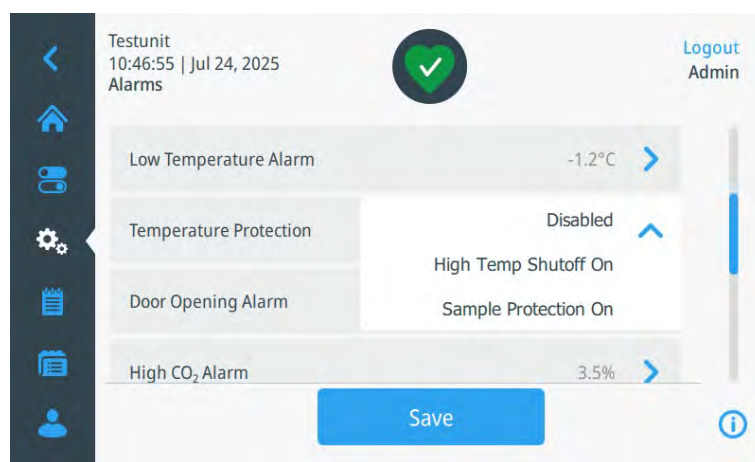

Figure 7-13. Temperature Protection
- To end the High Temperature Shutoff function, return to the Menu “Temperature Protection” (Figure 7-13) and choose “Disabled”.
- Select “Sample Protection on“ (Figure 7-13) to define a desired temperature range that should be maintained. The following screen is displayed: